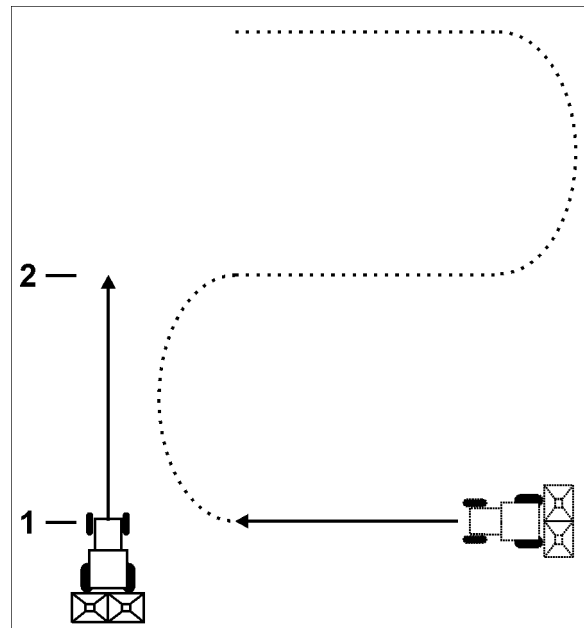

Fig. 7
1. At the end of the field, drive transverse to the working direction and at the level of the tractor track (Fig. 7/1) press the  key.
2. If the display shows the value of the working width as distance (Fig. 7/2), start the next run.